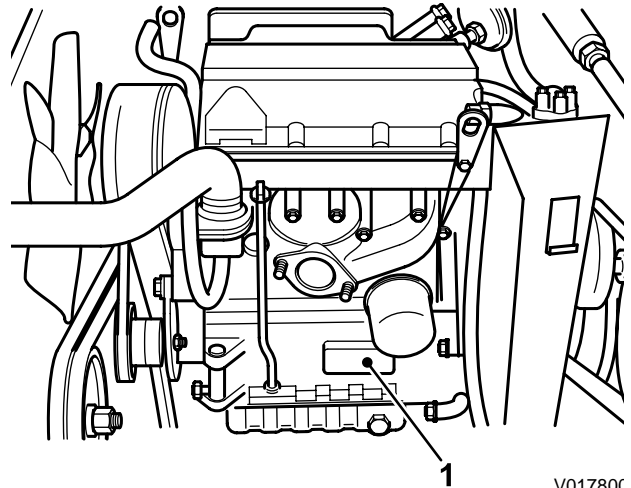

Fig 2.
The engine serial number is printed on a plate (1) attached to the engine as shown. ⇒ Fig 2. \(□ 1-3\)
The data information is located on the data plates (1) attached to the engine as shown. ⇒ Fig 2. \(□ 1-3\)